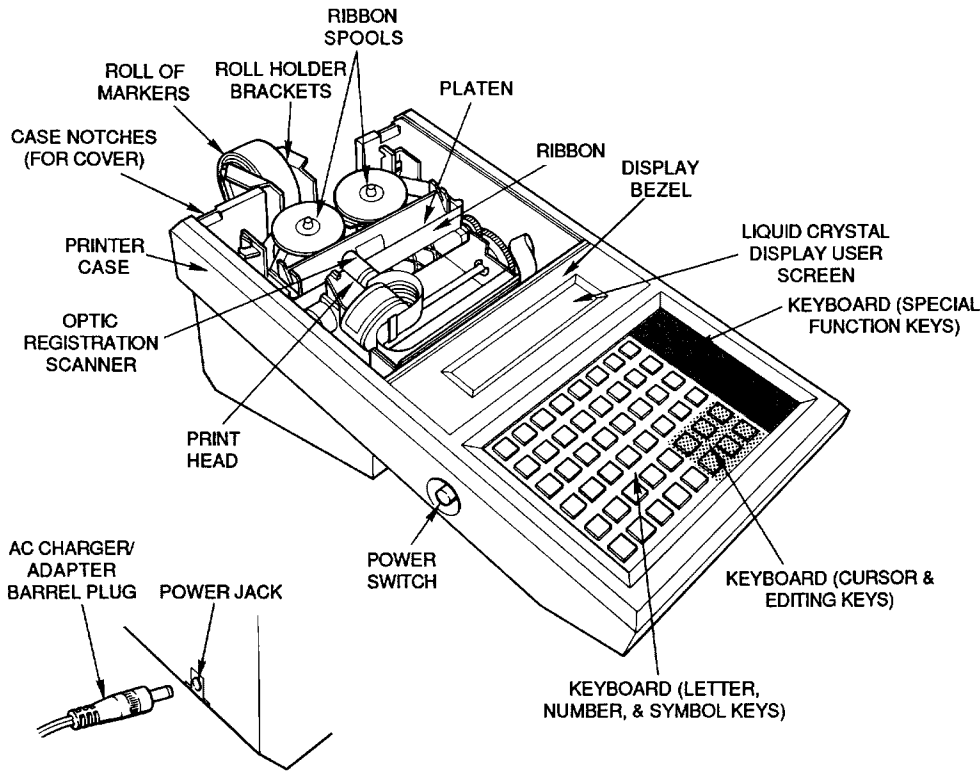

Figure 5. Bradymarker XC Plus Printer
35. **DESCRIPTION OF PRINTER.** The Brady marker XC Plus Printer (BMXC-Plus) is a portable, self-contained dot matrix label/sleeve printing system (Figure 5).